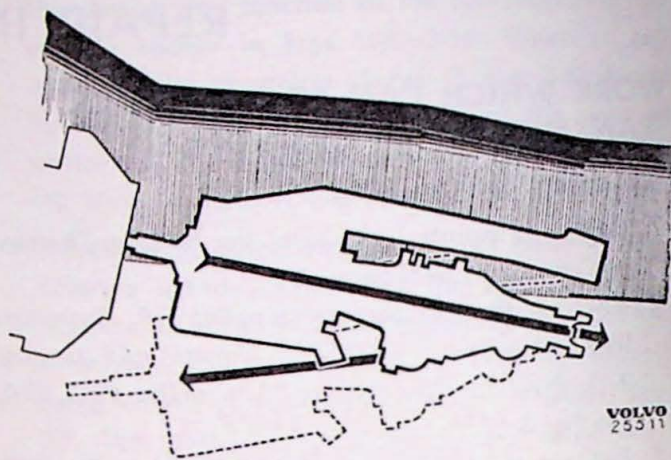
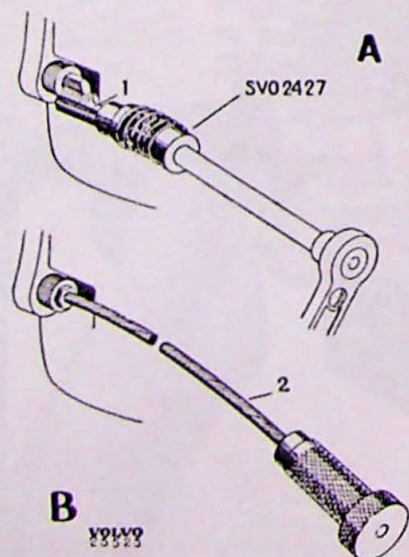

Fig. 3-17. Removing the transmission
Fig. 3-16. Removing the transmission bolts
5. Unscrew the bolt which holds the transmission to the clutch casing. Use spanner SVO 2431 and ball joint SVO 2427, see A, Fig. 3-16. Tool SVO 2432 is then used for screwing out the bolts, see B, Fig. 3-16. Pull out and lower the transmission, see Fig. 3-17.